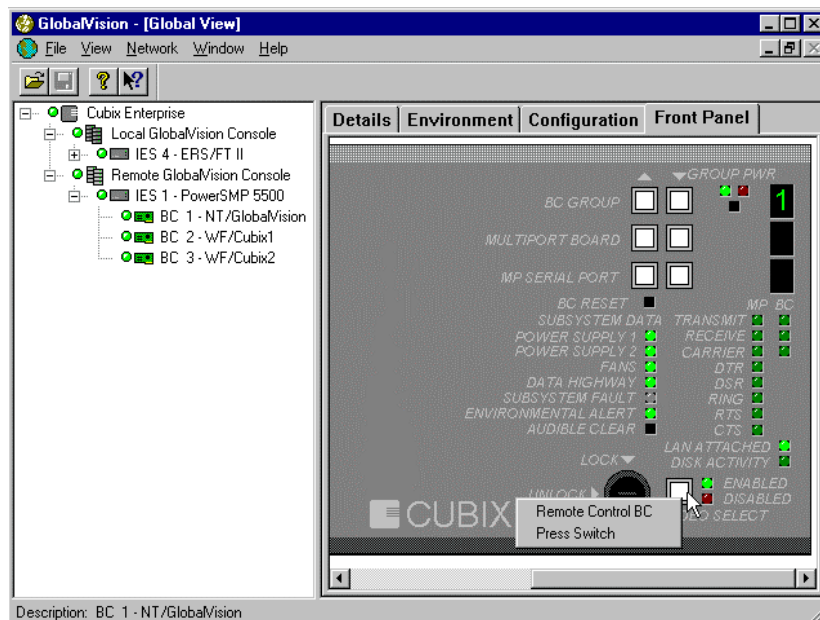

Figure 130 - Front Panel tab, Video Select Button controls for ERS/FT II
The VIDEO SELECT button brings up the following menu items: **Remote Control BC** and **Press Switch**. The VIDEO SELECT button is a small white square button with gray trim. It is located on the bottom right-hand corner of the FRONT PANEL tab, in between the Console Lock and the VIDEO SELECT indicators. See Figure 130.
1. Click on the VIDEO SELECT button to reveal the VIDEO SELECT pull-down menu. The menu items available are **Remote Control BC** and **Press Switch**. See Figure 130.